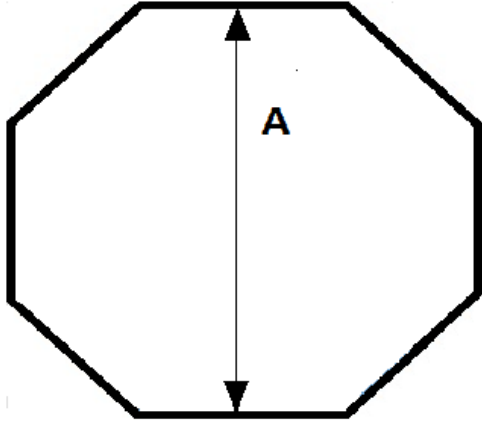
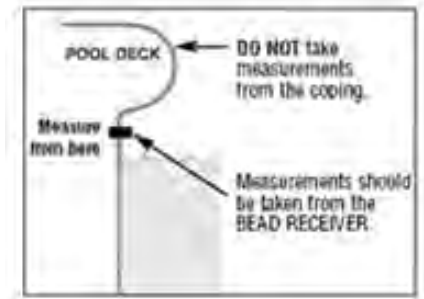

Figure 1
Figure 2
Referring to the illustration of your octagon pool (figure 1), be sure that the diameter (A) measurement is made at the bead receiver (where the liner snaps into the track), not at the edge of the coping (the edge of the pool deck or the top of the pool wall). See figure 2.